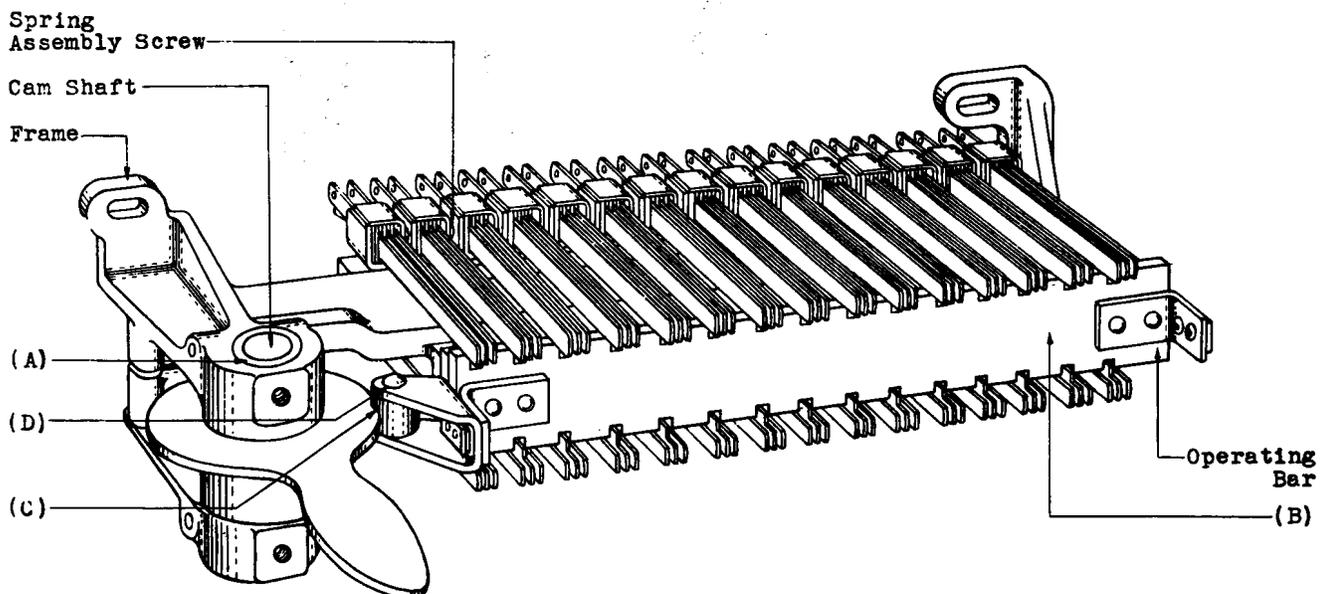

Fig. 1 - 188 Type Switch
(a) Figs. 1 (A) and (B) and 2 (A) and (B) - The cam shaft and operating bar shall be kept free from lubricants. The operating bar shall also be kept free from dust and dirt.
(a) Cam Bearing Surface - Figs. 1 (C) and 2 (C) - The cam bearing surface shall be adequately lubricated with Veedol medium cup grease.
(b) Cam Roller Bearing - Figs. 1 (D) and 2 (D) - The cam roller bearing of 188 type switches and the cam roller bearing nearest the spring assembly of 189 type switches shall be adequately lubricated with KS-6438 oil. When lubrication is necessary two drops of KS-6438 oil shall be applied to the cam roller bearing.